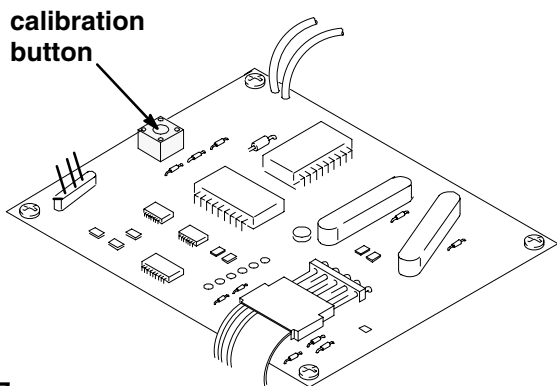
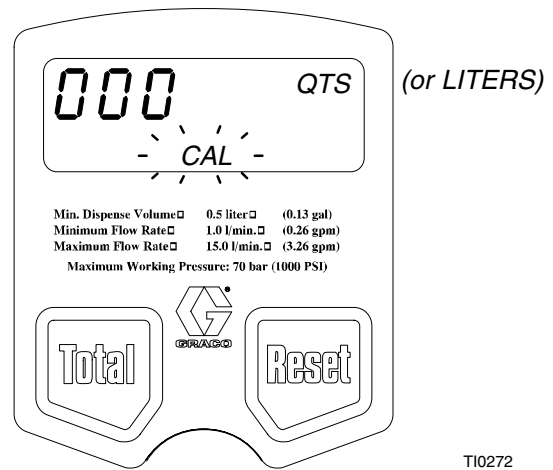

Fig. 7
Fig. 8
3. Press the calibration button inside the unit, shown in Fig. 7. The “CAL” indication should show on the display (see Fig. 8).
5. Press the Total button. Output should be 000 as shown in Fig. 8.